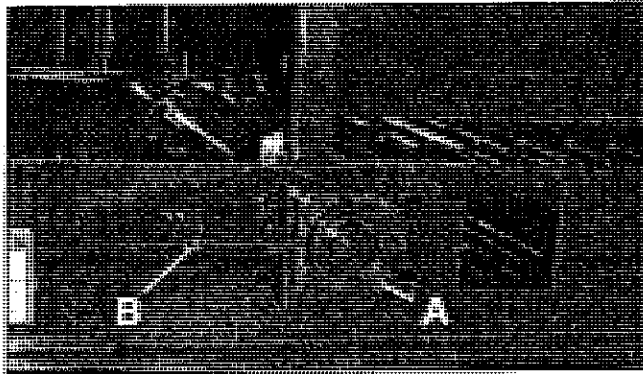

Figure 2.21: Tank Chain Tensioning. (A) - Bracket Bolts; (B) - Take-Up Bolts.
To adjust draper chain in tank conveyor (see Figure 2.21), loosen bracket bolts (A). Using take-up bolts (B), tension both sides equally so draper chain just clears guides under tank, this is very tight. Retighten bolts. Check tension frequently.